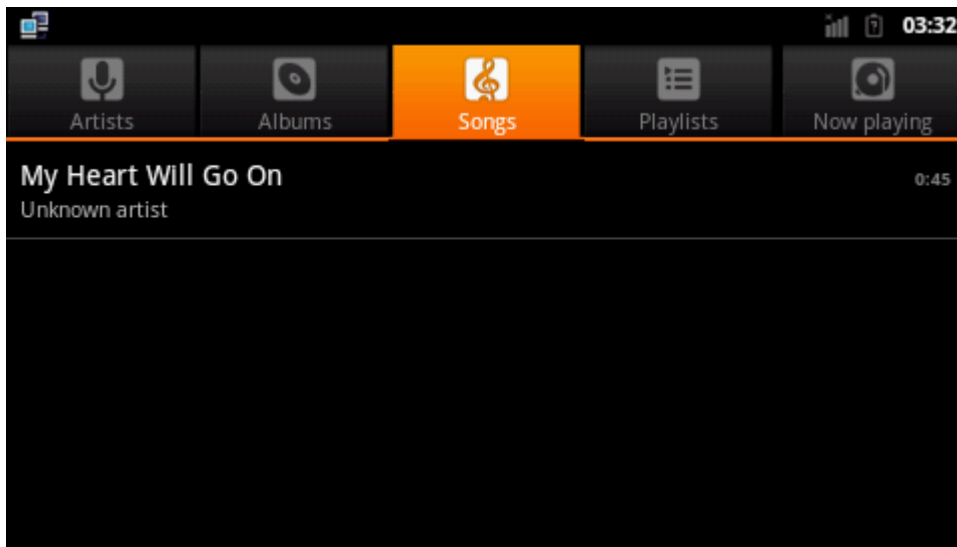

Figure 5-19
(2) Then there will be song attributes, select “Songs”. Refer to figure 5-19: